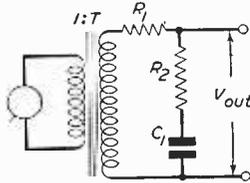
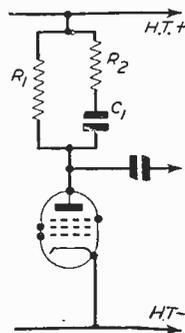

Fig. 9.—A practical form of Fig. 8.
Fig. 11.—An alternative form of "bass lift" circuit.
As a numerical example, we will calculate the values of  $R_1$ ,  $R_2$  and  $C_1$  required in the gramophone pick-up equalizer shown in Fig. 9. The network must provide about 15 db. of "bass lift" at 50 c/s and the lift should begin at about 300 c/s. The pick-up is designed to work into a certain load and to satisfy this requirement we will assume that the load on the transformer secondary winding must be 100,000 $\Omega$ . From expression (2)  $R_1$  must be four times  $R_2$  to give 15 db. of "bass lift." Over most of the audio-frequency range the reactance of  $C_1$  is small compared with  $R_1$  and the secondary load may be taken as  $(R_1 + R_2)$ . This total must equal 100,000 $\Omega$  and the value of  $R_1$  is 80,000 $\Omega$  and  $R_2$  20,000 $\Omega$ . The bass boost is required to begin at 300 c/s and  $C_1$  must have a reactance of 20,000 $\Omega$  at 300 c/s. From a reactance chart the necessary value of  $C_1$  is 0.025 $\mu\text{F}$ . There is no simple way of calculating the response curve given by this
An alternative bass-lift circuit is given in Fig. 11. This shows frequency correction carried out in the anode circuit of the gramophone pre-amplifier. Its operation may be explained in the following way. At very low frequencies the reactance of  $C_1$  is very large and the anode load of the valve is nearly equal to  $R_1$ ; at very high frequencies the reactance of  $C_1$  is very small and the anode load is nearly equal to  $R_2$ .  $R_2$  is one-quarter of  $R_1$  and the gain of the pentode tends to be directly proportional to the load resistance; thus the gain is greater at low frequencies than at high ones. This circuit has the advantage over that of Fig. 9